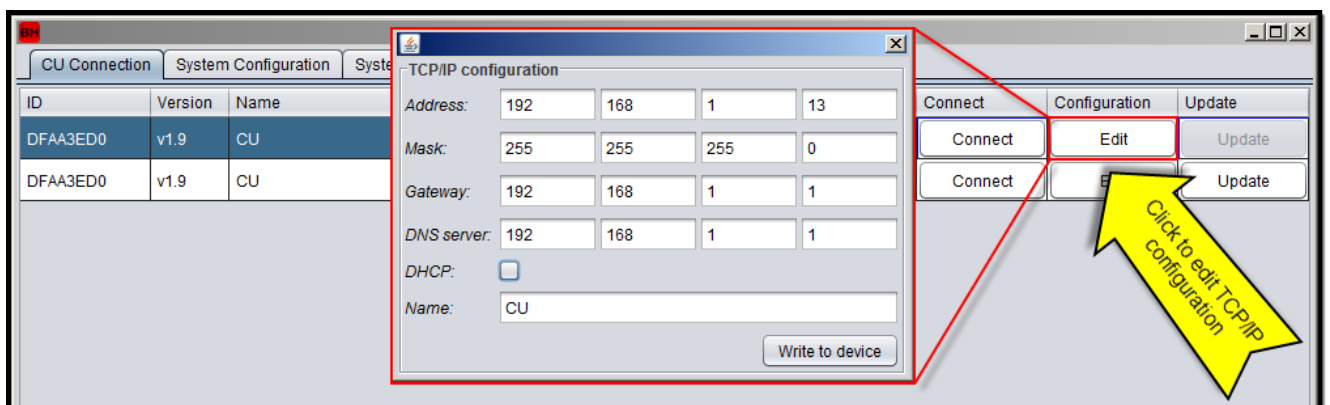

Figure 26: CU connection TCP/IP configuration
- The CU is shipped by default with a dynamic IP address (DHCP) which should fit most of the uses. In case the CU must be run with a different setting, the user can click on the “**Edit**” button to open the TCP/IP configuration dialog as shown in Figure 26. Insert the desired values in the dialog and click on “**Write to device**” button to store the new setting in the CU.